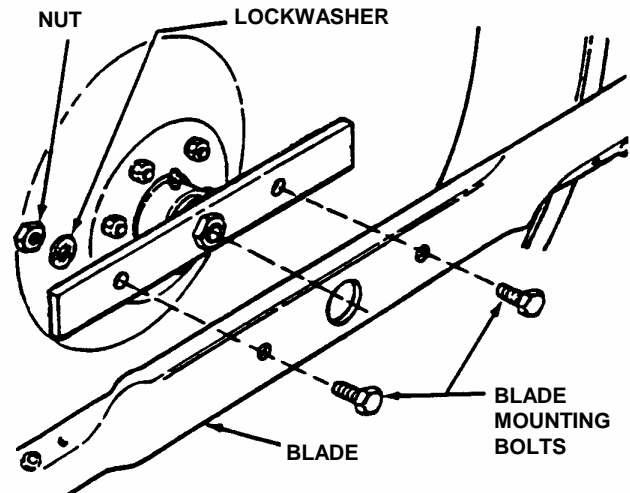

FIGURE 4.11
8. Reinstall blade. See Figure 4.11. Torque blade mounting bolts to recommended range of 30 to 40 ft. lbs.
4. Remove blade. See Figure 4.11.